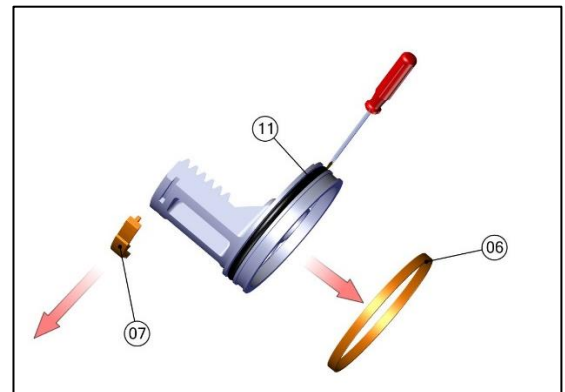

Fig No.16
- b) Remove the Piston O-ring (11) using screw Driver. (refer Fig No.16)
- c) Remove the Piston Guide Band (06) & Piston Pad (07) for replacement. (refer fig no.16)